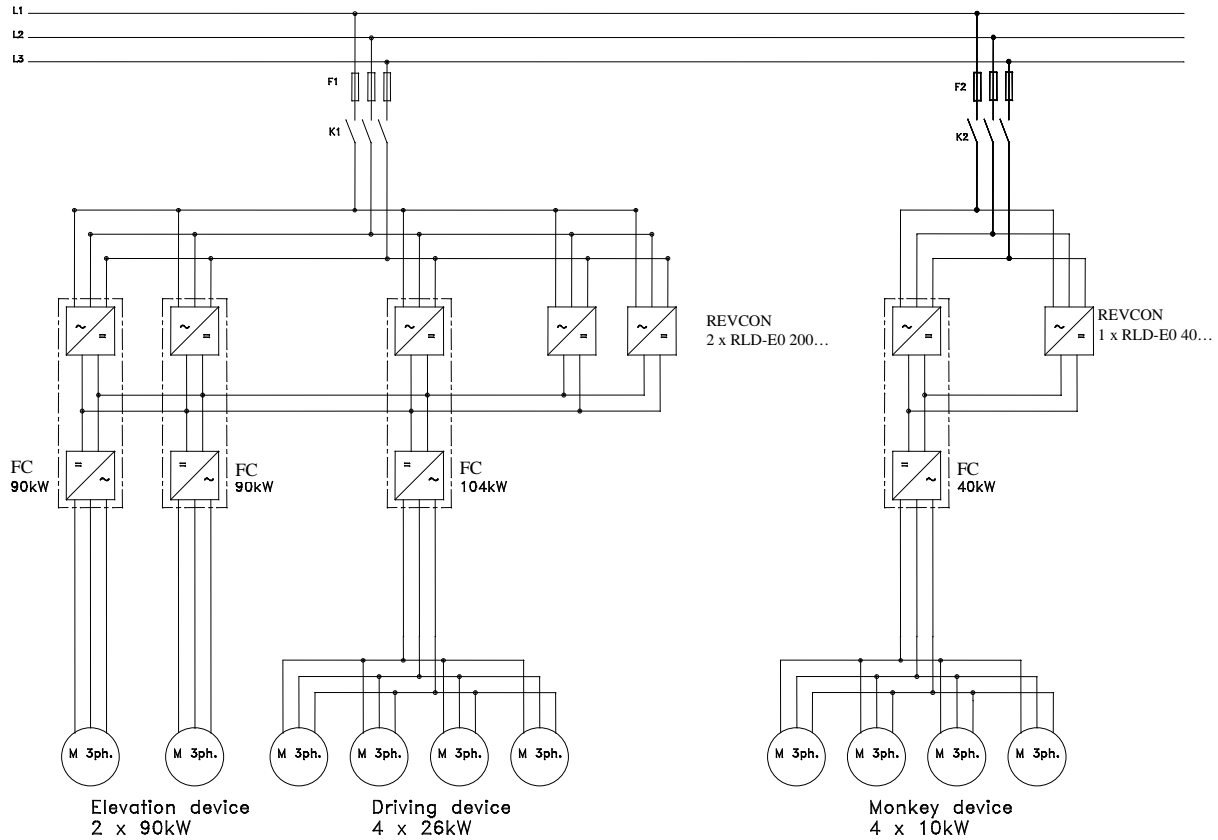

Figure 4.5.1
7. At these terminals one or more controllers (even with different power ratings) may be attached, like it shown in figure 4.5.1. Even if several controllers are attached, the wires have to be as **short and low impedance** as possible!
8. At these terminals one or more controllers (even with different power ratings) may be attached, like it shown in figure 4.5.1. Even if several controllers are attached, the wires have to be as **short and low impedance** as possible!
Within greater plants several power feedback units may be coupled. Figure 4.5.1 shows an example of a crane system with some possible combinations.